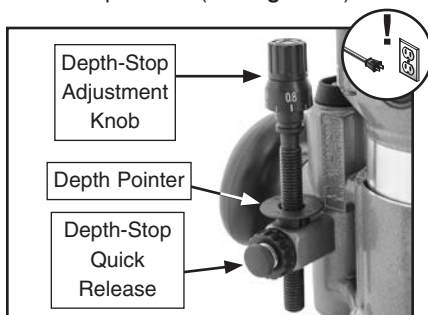

Figure 10. Depth-stop adjustment.
4. Push depth-stop quick-release button and raise depth stop all the way (see **Figure 10**).
8. Move depth pointer to the "0" mark on the depth scale (see **Figure 10**).